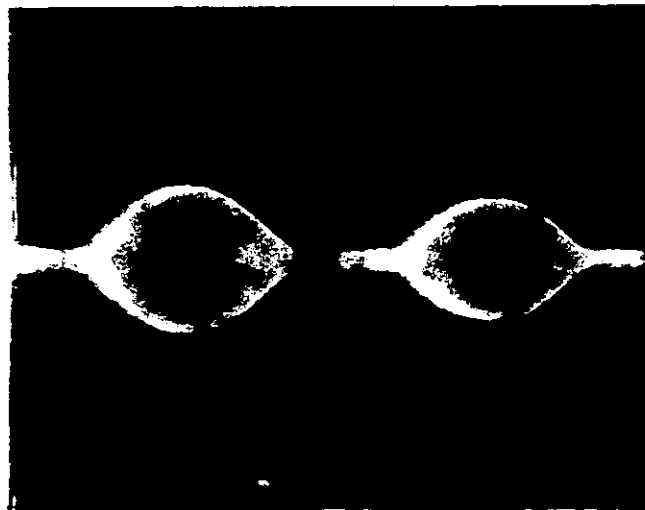

Figure 4-8: Radial Track Alignment Patterns
- E.. With power on loosen the stepper motor mounting screws on bottom of drive and rotate the motor so that the "cat's eye" pattern appears on the scope and adjacent lobes are within 70% amplitude (see Figure 4-8). Tighten mounting screws. Command a return to track 00 and then step back to track 32 to verify proper alignment. Command a seek to track 64 and then step back to track 32 to verify proper alignment.